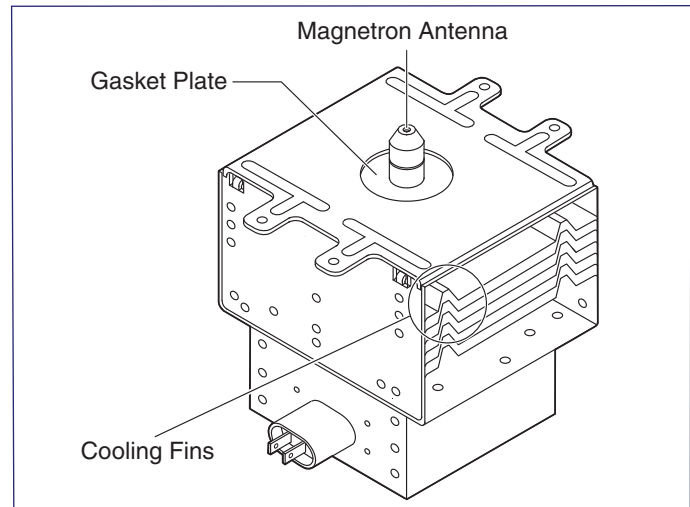

Figure 4-7. Magnetron Components
6. Remove the magnetron with care so that the magnetron antenna is not hit by any metal object around the antenna. (See Figure 4-7)